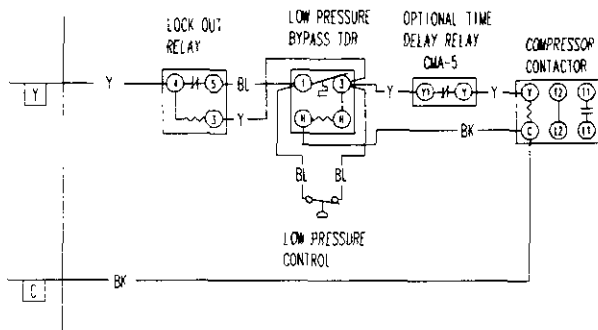

Figure 7 — Installation Instructions for CMA-2 Low Pressure Control
- Step 2.** Disconnect yellow low voltage (Y) wire at compressor contactor coil or (Y1) at optional CMA-5 and reconnect to terminal #4 of the lockout relay.
- Step 3.** Connect yellow wire from terminal #3 of the low pressure bypass TDR to the (Y) terminal of the compressor contactor coil or (Y1) at optional CMA-5. This is the terminal that the wire was removed from in Step 2.
- Step 4.** Connect the black wire from terminal H of the low pressure bypass TDR to the common (C) side of the compressor contactor coil.
- Step 7.** Recheck wiring. See Figure 7. Check for proper operation of the unit by energizing in heating or cooling mode for at least 5 minutes. The unit should not go into lockout.